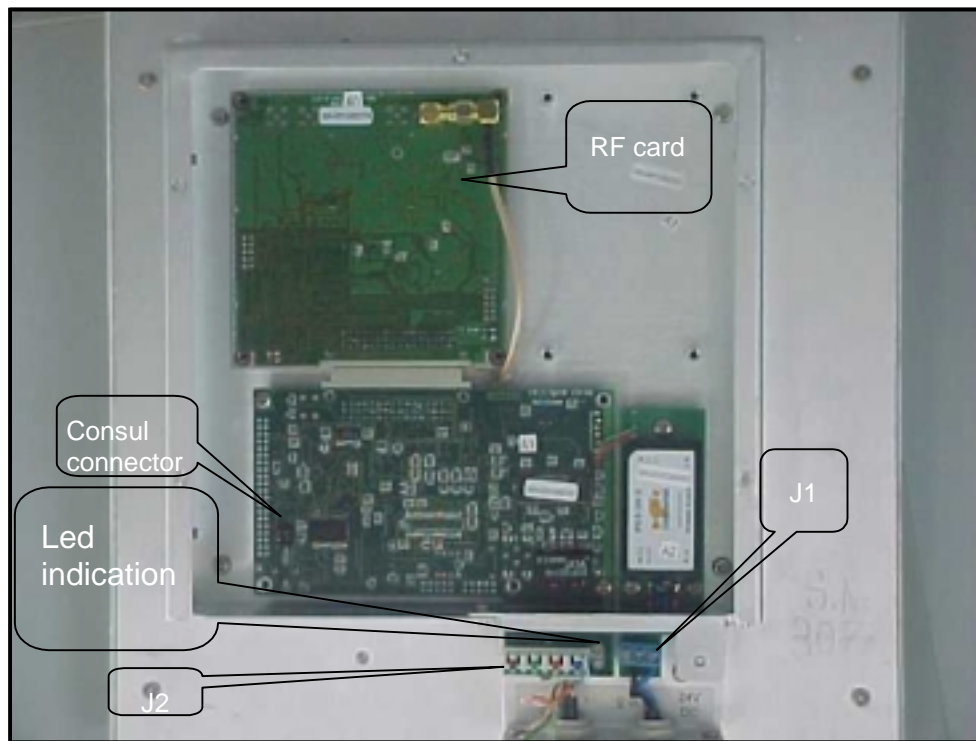

Figure 6. CPE LED locations
1. Open the cover of the CPE box so that you can see the indicators shown in Figure6, page18.
The outdoor unit has 3 LEDs with different color as shown in Figure6. Table5 describes the LED indicators.
Connect the consul cable to the consul connector ( see figure 6 )